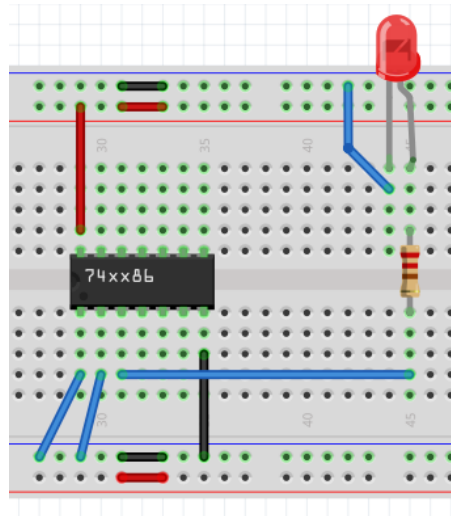

Figure 21
2. Connect **pin 7** to **GND bus** as shown by the vertical black wire in Figure 21.
3. Connect **pin 14** to **5V bus** as shown by the vertical red wire in Figure 21.
4. Connect the output **Y** of the first AND gate (**pin 3**) to the **resistor** as shown by the horizontal blue wire in Figure 21.
5. Connect input **A** of the first XOR gate (**pin 1**) to **GND** (logic 0) as shown by the diagonal blue wire in Figure 21.
6. Connect input **B** of the first XOR gate (**pin 2**) to **GND** (logic 0) as shown by the diagonal blue wire in Figure 21.